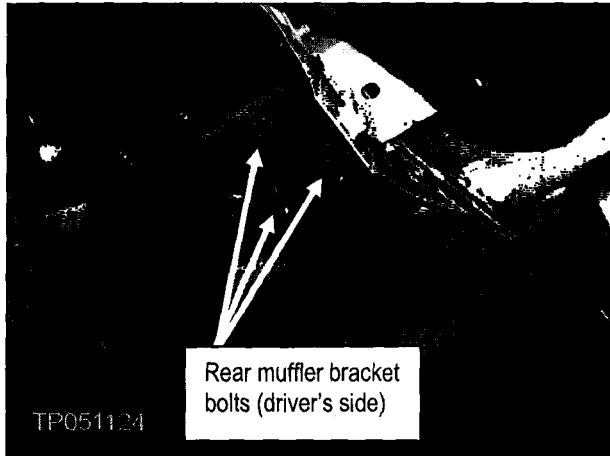

Figure 10a
10. Remove the rear muffler bracket bolts (see Figure 10a and 10b).